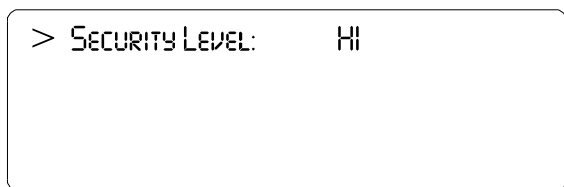

FIG. 337: LOGGING ON/STATUS DISPLAY - SECURITY LEVEL HI
- Step 7. Press the Enter button to set the entry. The Security Level Status display appears. This is a read only display listing your security level status. (See Fig. 337)